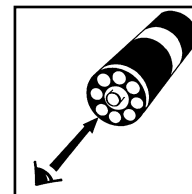

Figure 5
- a. **Low Range Comparator (fig. 5):** Place the ampoule, flat end first, into the comparator. Hold the comparator up toward a source of light and view from the bottom. Rotate the comparator until the best color match is found.